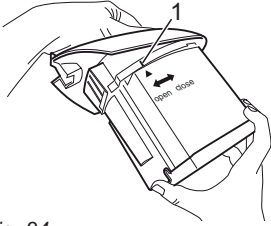

Fig. 24
14. Put the cover back on the dust container and lock by turning it anti-clockwise. Make sure when putting it on the marking on the cover is above the marking on the dust container (Fig. 24/1).